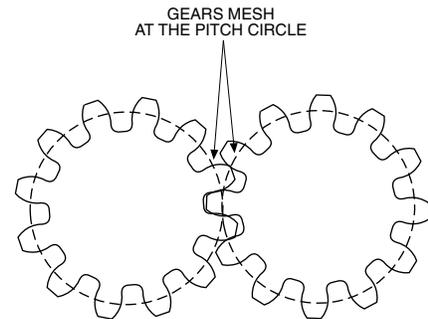

Figure 2.2A
**Pitch Circle:** *the imaginary circle that comes in contact with the imaginary circle of another gear when the two are in mesh. (See Figure 2.2A)*